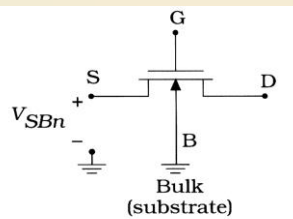

Figure 6.15 Bulk electrode and body-bias voltage
- ◆ In reality, the MOSFET is a **four-terminal** device with the substrate being the (B) bulk terminal of the device
- ◆ **Body Bias effects** occur when a voltage V_{SBn} exists between the source and bulk terminals of a nFET in Figure 6.15.